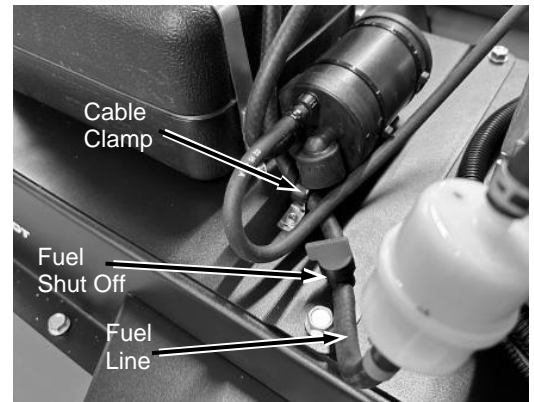

Figure 33
3. Open Fuel Shut-Off Valve on the left-hand side of the Mower (**Figure 33**).
4. Make sure Blade Control Switch is pushed down to the disengaged position (**Figure 33**).
1. Disengage Blades by pushing Blade Control Switch down (**Figure 33**).
**Note:** Close Fuel Shut-Off Valve when transporting or storing the DR TOW-BEHIND FIELD and BRUSH MOWER (**Figure 33**).